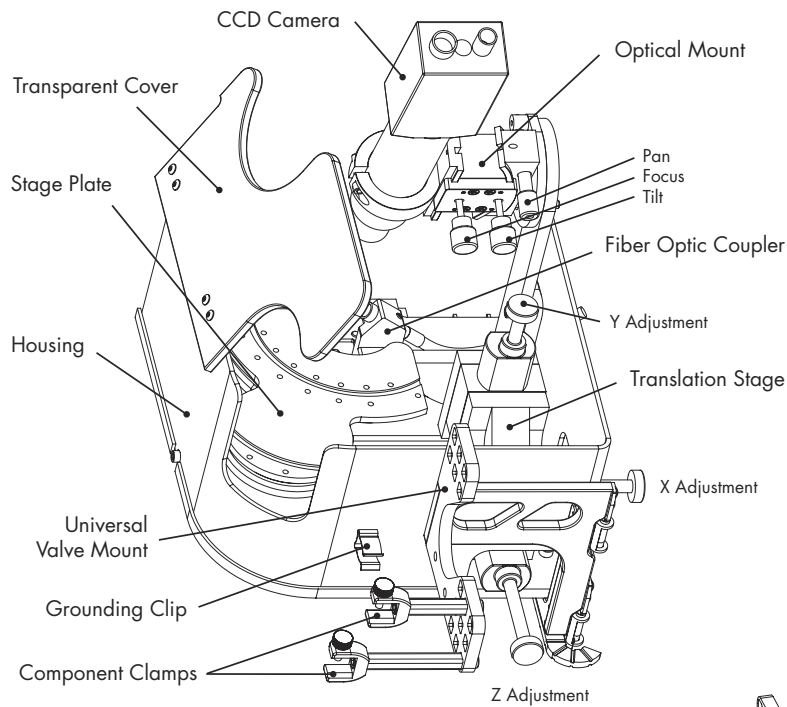

Figure 3.1A: User-side view of PicoView™
Figures 3.1A and B illustrate user-side and instrument-side views of PicoView™, showing the general layout of the components. The translation stage and stage plate comprise the PicoView hardware used for mounting and aligning tips with respect to the inlet on the mass spectrometer. The optical stage, CCD camera, and fiber optic illuminator make up the PicoView imaging hardware necessary for optimizing spray conditions. Complete descriptions of these components can be found later in this chapter.
The imaging system allows the user to quickly and efficiently optimize the electrospray conditions by providing direct observation of the character of the spray. The system includes a high-resolution CCD camera and an objective lens. An optional high magnification kit is available with two different objective lenses and a 10x eyepiece with an adapter that can be used in place of the CCD camera. Alignment of the imaging system is accomplished using the Focus, Tilt, and Pan adjustment screws of the optical stage. (Refer to Figure 3.1A on page 9.)
- 2) Screw the (male) threaded end of the lens onto the mating (female) thread on the instrument-side end of the optical tube. Turn the lens counterclockwise until it is finger-tight. See Figure 3.1A on page 9.